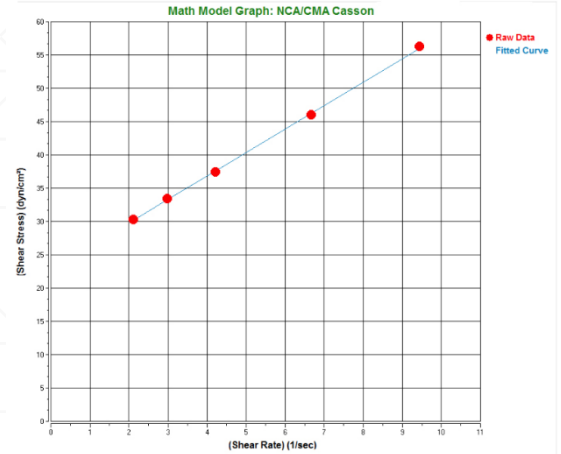

Figure 2: NCA/CMA Casson Plot of Chocolate Rheology at 40°C
- Figure 2: NCA/CMA Casson model fits the raw data with a nearly 100% Confidence of Fit (CoF).
- Figure 2: NCA/CMA Casson Plot of Chocolate Rheology at 40°C, showing a good fit to the model.